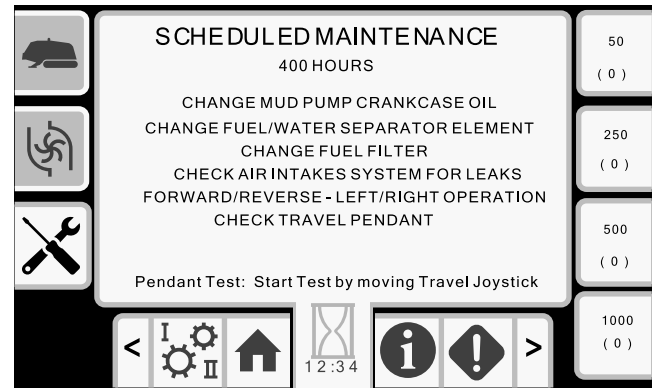

Figure 50
- Button 7—400-hour maintenance schedule (Figure 50)